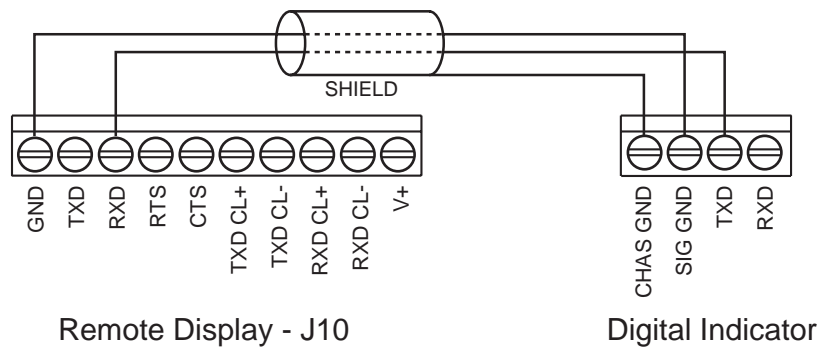

Figure 3-3. RS-232 Connections
- 6a. **RS-232:** Connect the RS-232C communication cable wires as shown at right in Figure 3-3. Connect twisted shield “wire” to CHASSIS GROUND terminal of weight indicator. Do not connect the shield to any Flip Digit Display terminals.